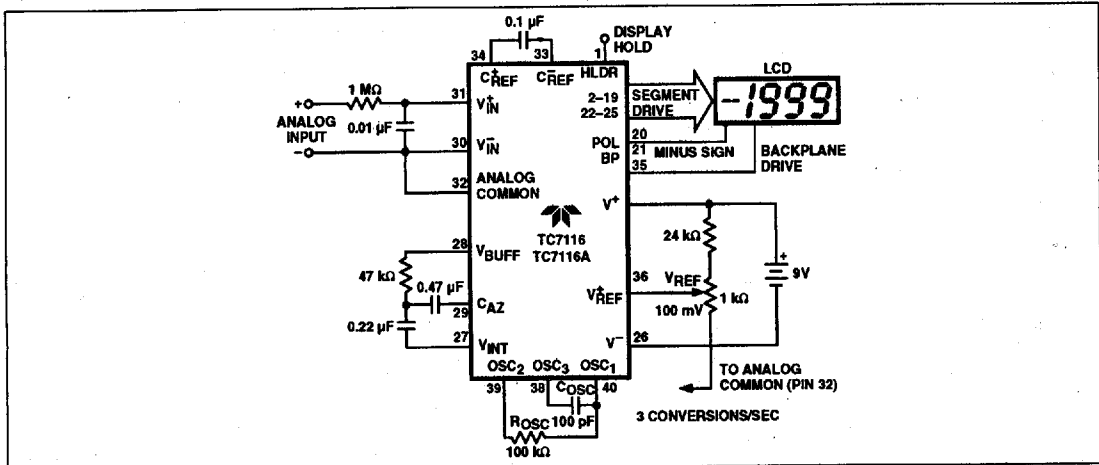
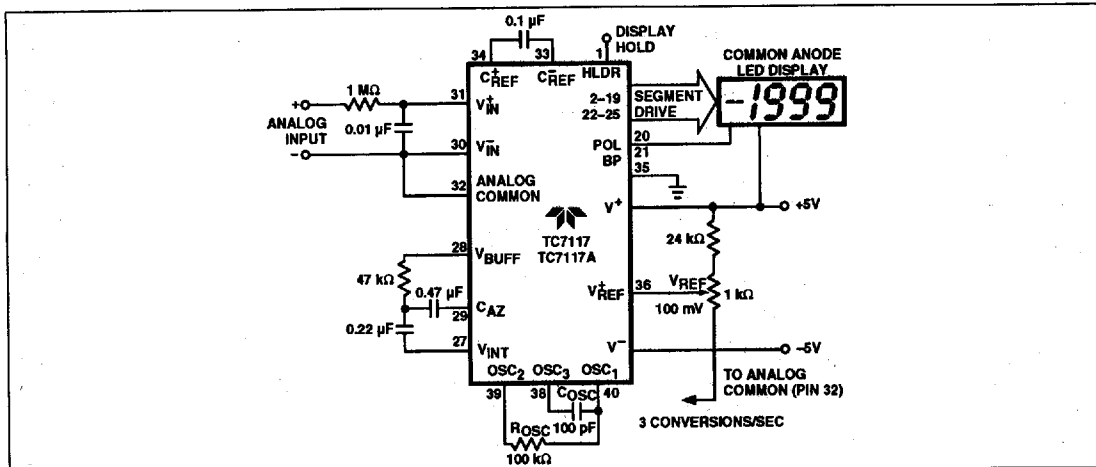

Figure 1 Typical TC7116/TC7116A Operating Circuit
Figure 2 Typical TC7117/TC7117A Operating Circuit
3. Unless otherwise noted, specifications apply at  $T_A = +25^\circ C$ ,  $f_{LOCK} = 48 \text{ kHz}$ . TC7116/TC7116A are tested in the circuit of Figure 1. TC7117/TC7117A are tested in the circuit of Figure 2.